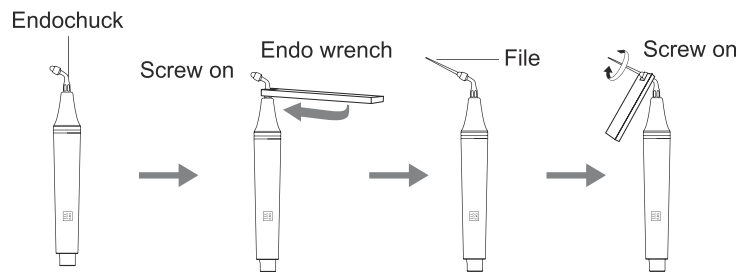

Figure 6 Instruction of using the wrench to install endo file and chuck
- 1) Install the endo chuck to the handpiece with endo wrench. (Figure 6)
- 2) Unscrew the screw cap at the top of endo chuck, insert the endo file into the hole of endo chuck, then tighten the cap with endo wrench. (Figure 6)